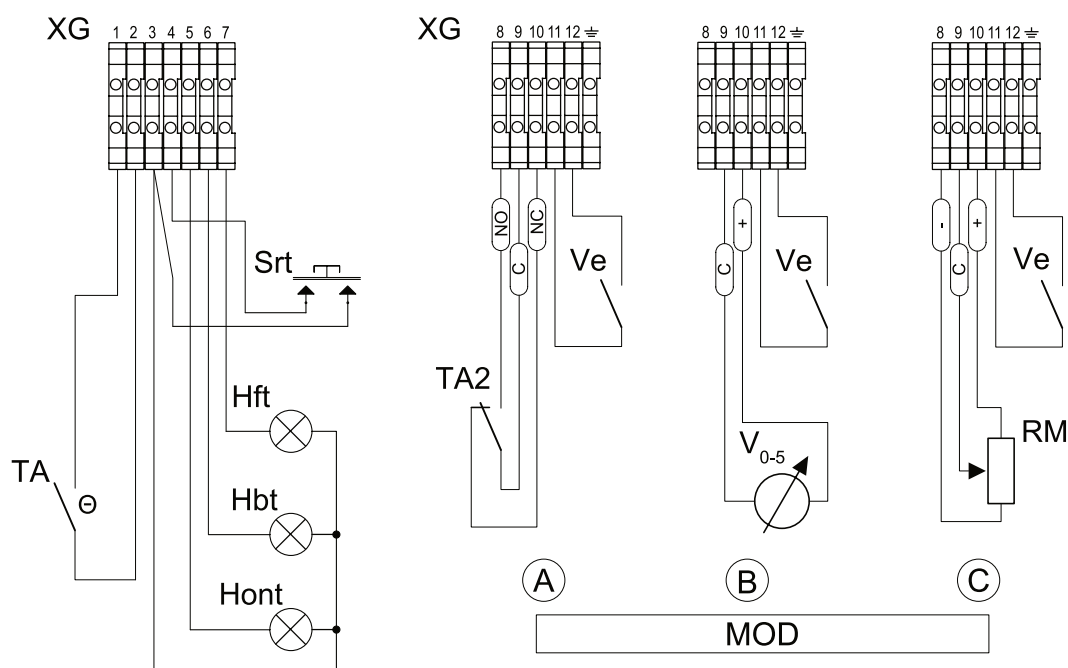

Fig 4.2 Room thermostat panel connections and burner power adjustment (optional)
In this case, connect the normally open contact (TA) of the thermostat to terminals 1-2 of the terminal block (XG) to control the unit (Fig. 4.2).
For manual control of the heat flow, always refer to Figure 4.2 (alternatives A, B and C).
#### Legenda fig. 4.2